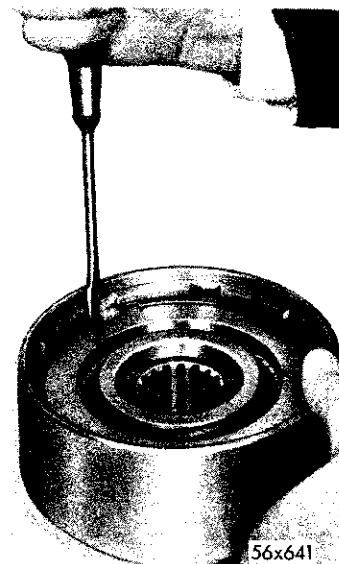
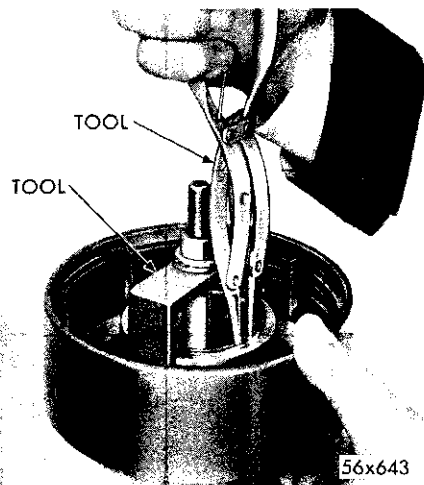

Fig. 110—Removal and Installation of Rear Clutch Piston Retainer Snap Ring
Fig. 111—Removal and Installation of Rear Clutch Spring Retainer Snap Ring
from rear clutch piston retainer assembly, as shown in Figure 110. Remove rear clutch pressure plate (L) from retainer assembly. Invert clutch piston retainer assembly and remove the clutch plates (N) and driving disc (M) assemblies (four each). Using compressor, Tool C-3575, slightly compress the rear clutch piston return spring retainer, as shown in Figure 111. Use extreme care not to damage piston return spring retainer by compressing spring too far.
Using compressor, Tool C-3575, compress the clutch spring sufficiently to seat the snap ring, as shown in Figure 111. **Piston spring retainer may require guiding past the clutch hub. Make sure snap ring is properly seated.** Remove compressor, Tool C-3575. Lubricate all clutch plates and drive discs with Automatic Transmission Fluid (Type A). Assemble by placing one of the rear clutch steel plates, in the clutch retainer followed by a driving disc. Repeat this procedure until all four discs and four plates have been installed. **Do not install rear clutch pressure plate and snap ring at this time as the rear clutch pressure plate will be used as an assembly tool in selecting the proper front clutch clearance. The pressure plate should be thoroughly cleaned.**